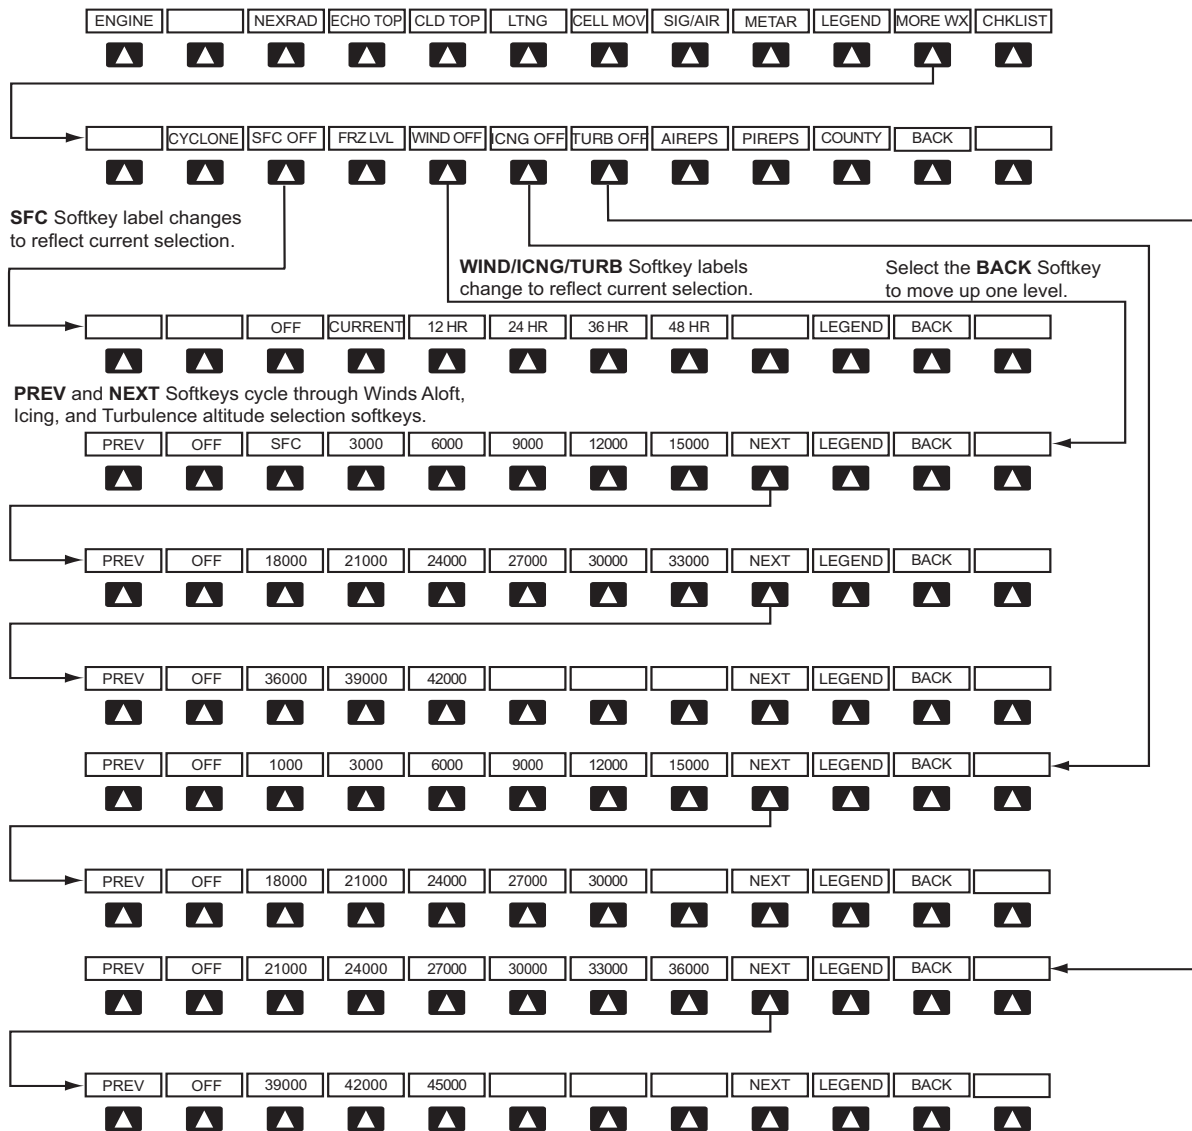

Figure 6-3 Weather Data Link (XM) Page Weather Product Softkeys
Softkeys control the display of weather information on most MFD pages and the PFD Inset Map (Figure 6-3) shows the weather product softkeys for the Weather Data Link (XM) Page). When a weather product is selected for display, the corresponding softkey label changes to gray to indicate the product is enabled.